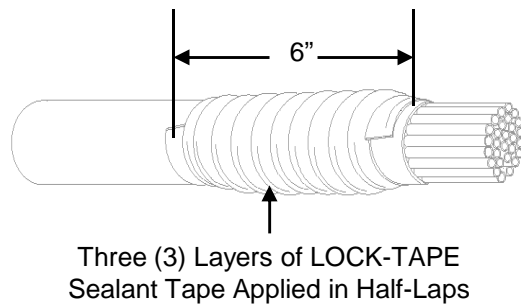

Figure 21
11.4 Apply three (3) half-lap layers of LOCK-TAPE Sealant tape around 6" cleaned area of tube cable jacket. **See Fig. 21.**